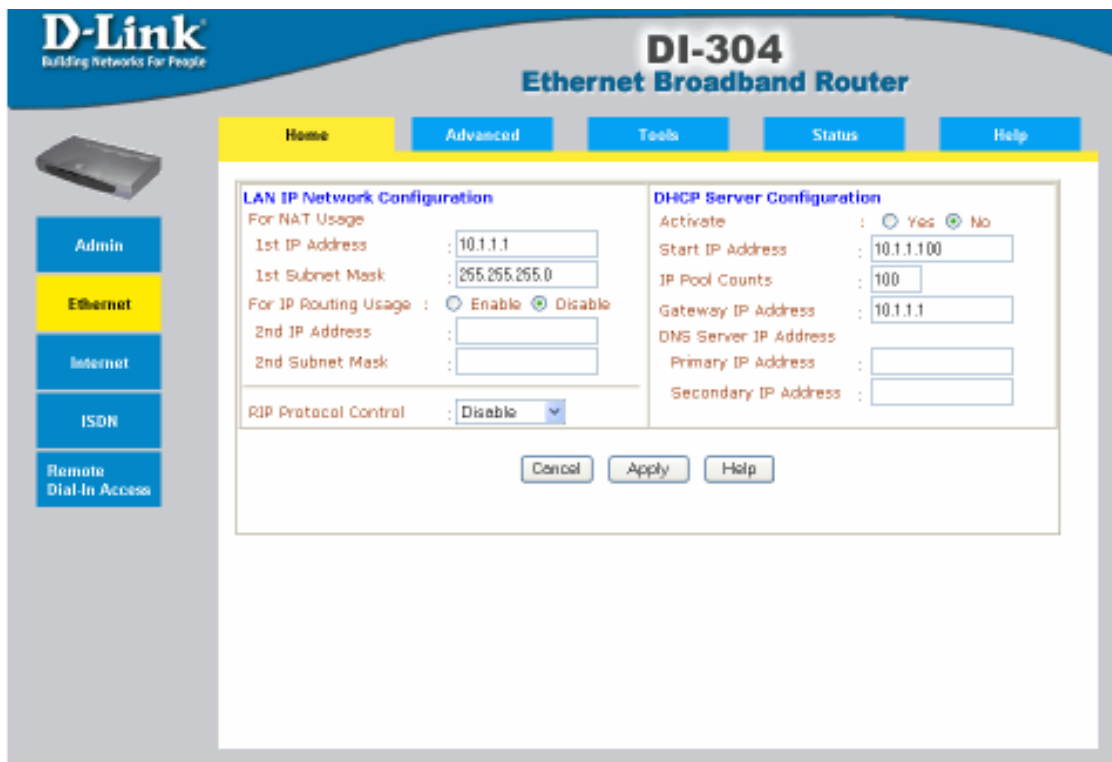
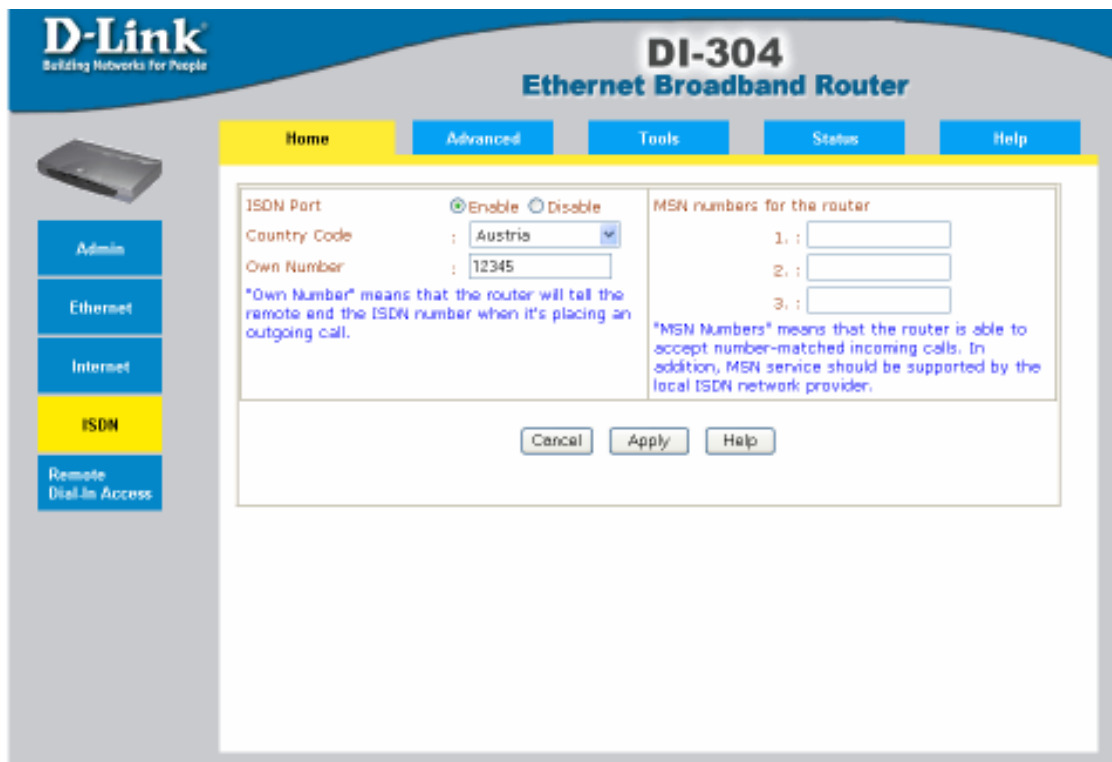

Figure 29: Ethernet configuration of ISDN Router 2
Figure 30: ISDN Configuration of ISDN Router 2
5. The IP and ISDN configuration of the remote router device is shown in Figure 29 and Figure 30.